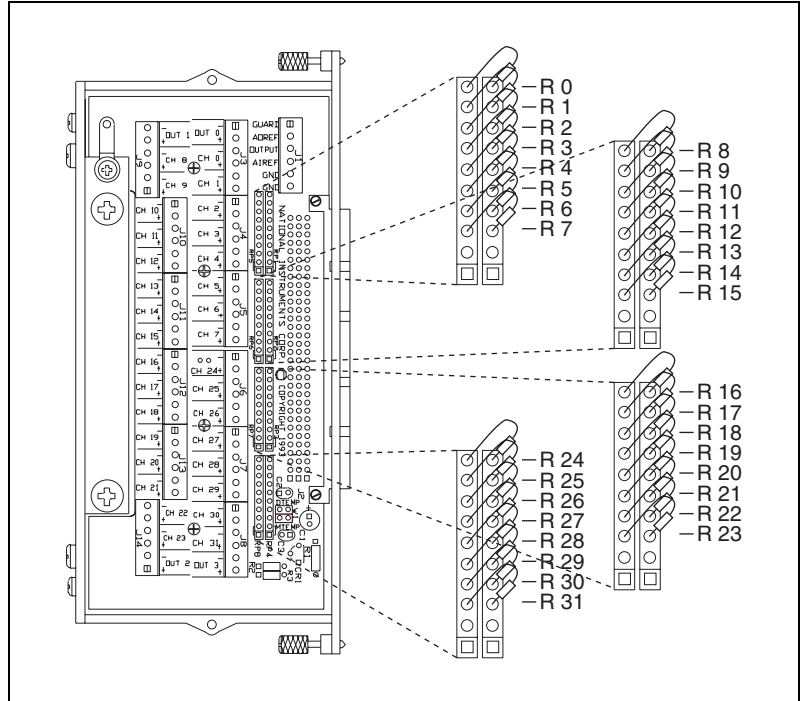

Figure 1. Precision Resistor Locations
2. Locate R 0 in Figure 1 on the printed circuit board. This precision resistor is associated with channel 0 on the terminal block.